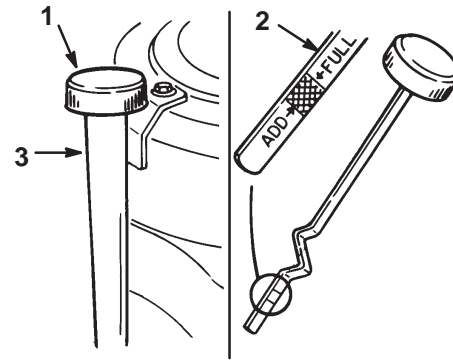

Figure 26
2. Clean around the oil dipstick (Fig. 26) so dirt cannot fall into the filler hole and damage the engine.
3. Unscrew the oil dipstick and wipe the metal end clean (Fig. 26).
4. Thread the oil dipstick fully onto the filler tube (Fig. 26). Pull the dipstick out and look at the metal end. If oil level is low, slowly pour only enough oil into the filler tube to raise the level to the full mark.
5. Slowly pour approximately 80% of the specified oil, page 25, into the filler tube (Fig. 26). Now check the oil level; refer to Checking Oil Level, page 25. Slowly add additional oil to bring to the full mark on dipstick.